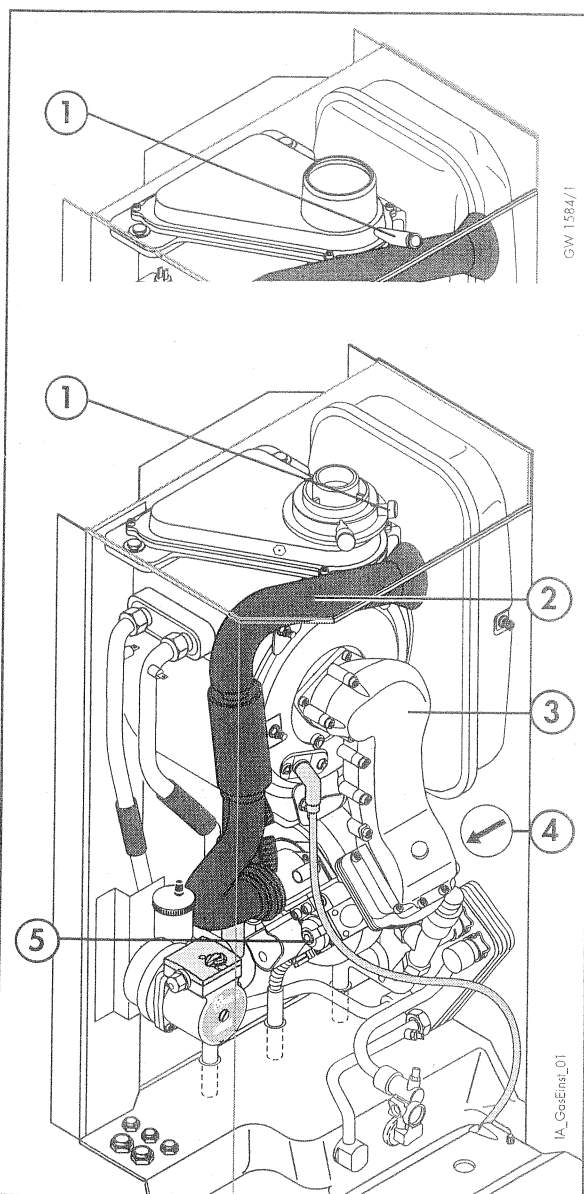

fig. 1
1. Removal/Mounting (fig. 1)
2.1 Setting the correct gas/air ratio in case of operation with natural gas (fig 1/2)